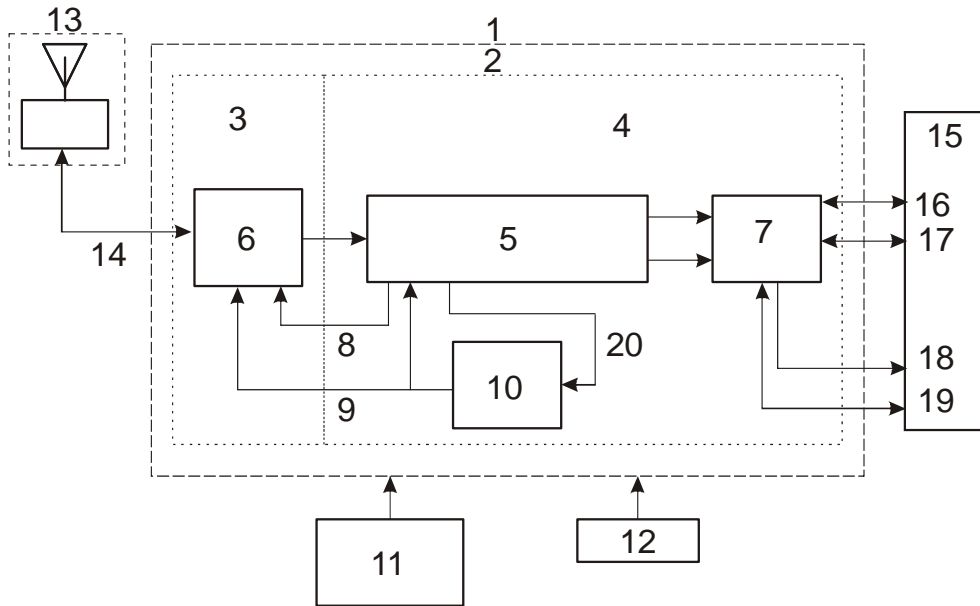

Figure 3: GNSS Receiver System Functional Diagram
The overall system is represented in *Figure 3*. A brief description of the Radio Frequency (RF) and Digital Electronics sections follow the figure. The components listed earlier are also described. Details of installation and set up are provided in *Chapter 2, Installation and Setup* on Page 29.